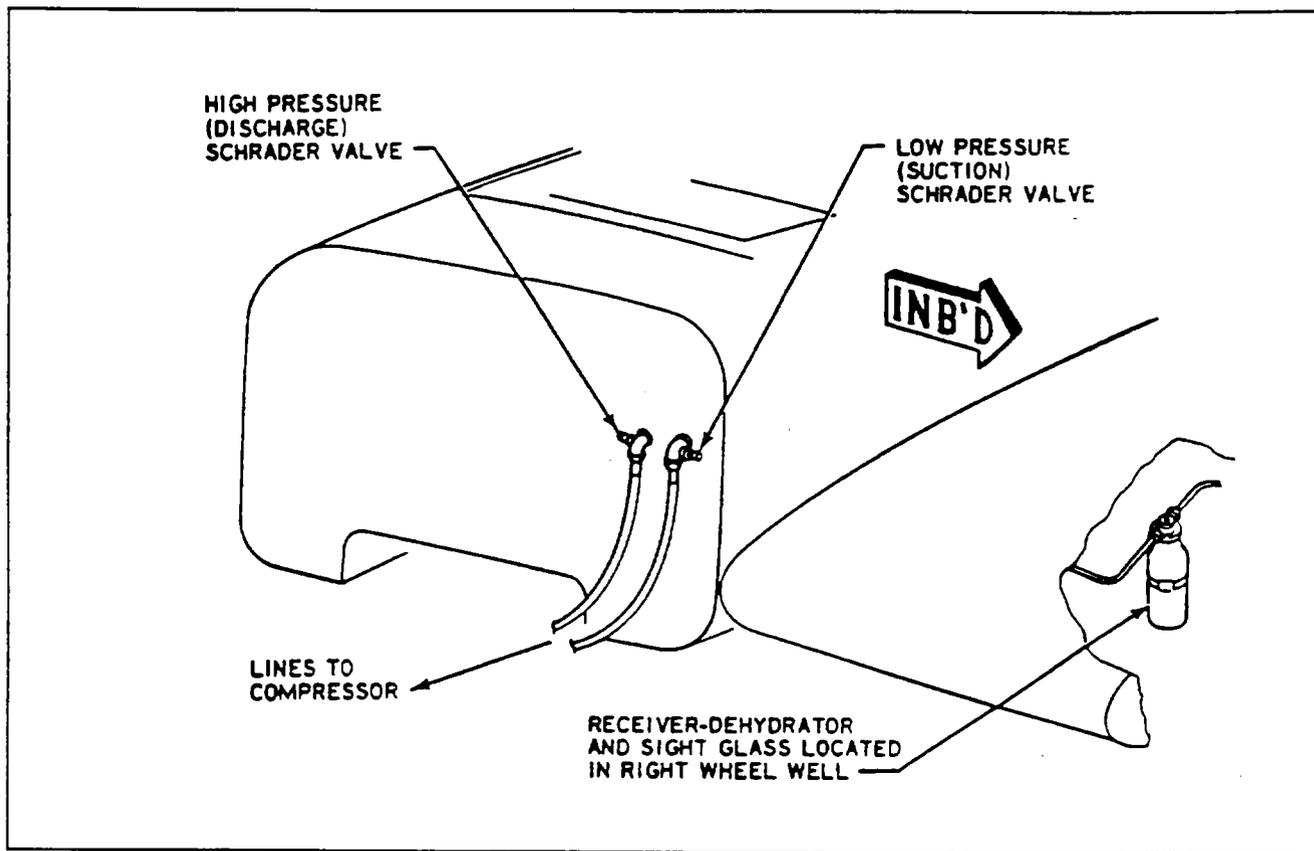

Figure 21-27. Service Points (Air Conditioning System)
- B. Connect red high-pressure charging line to high pressure Schrader valve at the fire wall fitting of the right nacelle. (Refer to Figures 21-27 and 21-29.)
- A. Connect red high pressure hose to the fire wall fitting high pressure Schrader valve and the blue low pressure hose to the fire wall fitting low pressure Schrader valve. (Refer to Figures 21-27 and 21-29.)
- A. Close both valves on a standard gauge set. Connect the red high pressure hose from the gauge set to the high pressure Schrader valve on the fire wall fitting. Connect the blue low pressure hose from the gauge set to the low pressure Schrader valve on the fire wall fitting. (Refer to Figures 21-27 and 21-29.)
- A. Using lines long enough to extend from the rear of the wing, connect the gauge set to the fire wall fitting Schrader valves. Connect the low pressure gauge to the suction side and the high pressure gauge to the discharge side. (Refer to Figures 21-27 and 21-29.) Secure the gauge set to prevent movement and aircraft damage from prop blast.